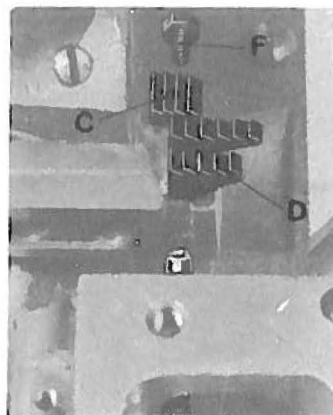
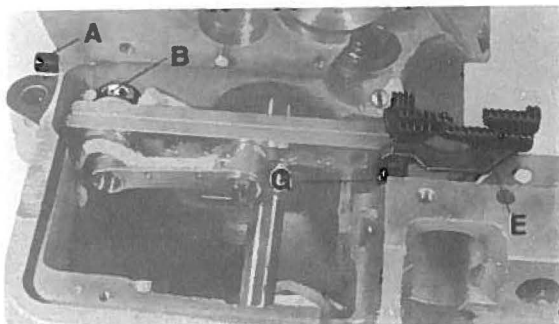

fig. 12
fig. 13
- At this point loosen screw F (fig. 12) and raise or lower feed dogs C and D so that half the depth of the teeth of the feed dog are above the top surface of the needle plate.
- Retighten screw F (fig. 12).
- Set the front feed dog E (fig. 13) in slot on differential feed lever with screw G.
- Retighten screw G. (fig. 13). It may be necessary in some cases to lower chaining feed dog C (fig. 12) for chaining off purposes.
- In the event it is found necessary to tilt feed dogs, loosen screw A (fig. 13) and turn eccentric B (fig. 13) in the direction required to get the proper setting.
- loosen screw N of lower knife holder (fig. 13)
- turn handwheel clockwise till knife-holder block A is in its uppermost position. Loosen screw N (fig. 13)
- Activate lower knife holder so that knife holder pressure-spring will apply the correct pressure to the cutting edges of the trimmer knives. At no time should pressure be applied against screw A (fig. 13) when setting the trimmer knives.
- Retighten screw N (fig. 13)